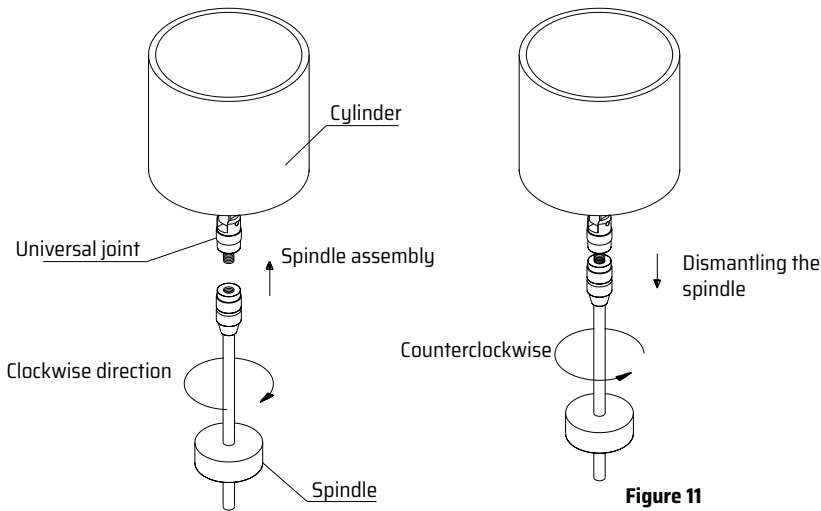

Figure 11
- » Given that the spindle and the universal joint are joined by a left-hand thread, the spindle must be mounted or dismounted in the correct direction of rotation (Figure 11), otherwise the universal joint will be damaged.